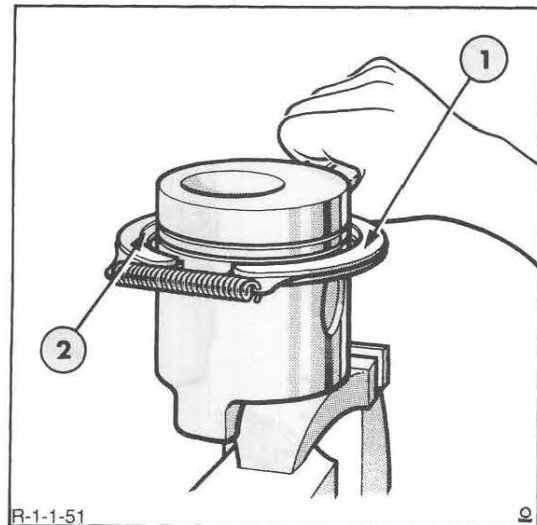

Figure 49
4. Use an expander to install the piston rings Figure 49, starting with the oil control ring in the bottom groove and working upwards.
Position a "rail" type expander in the oil groove ensuring the ends do not overlap. Attempting to install a ring with overlapping ends will result in a broken ring and/or damaged cylinder bore. Do not cut the expander if it appears to be too large. The rings will compress to size if the correct ring compressor is used, Figure 49.